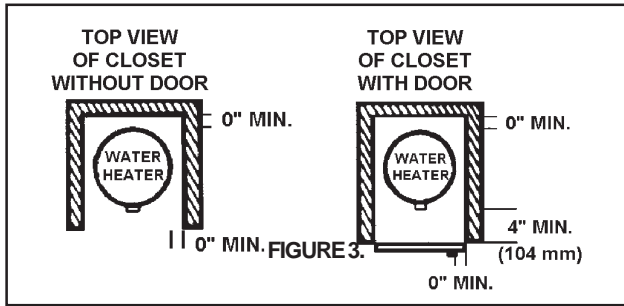

FIGURE 3.
4. Carefully plan the place where you are going to put the water heater. Correct combustion, vent action, and vent pipe installation are very important in preventing death from possible carbon monoxide poisoning and fires, see Figures 3 and 8.
Minimum clearances between the water heater and combustible construction are 0 inch at the sides and rear, 4" (102 mm) at the front, and 6" (153 mm) from the vent pipe. Clearance from the top of the jacket is 12" (305 mm) on most models. Note that a lesser dimension may be allowed on some models, refer to the label attached adjacent to the gas control valve on the water heater, see Figure 3.